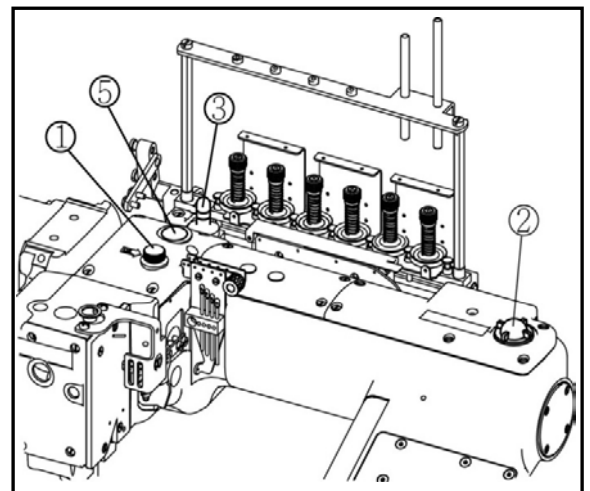

Fig. 15
Check the oil splashes from the nozzle inside the oil sight gauge top windows ⑤ and ⑥ when starting to run a machine. (Fig. 15 & 16)